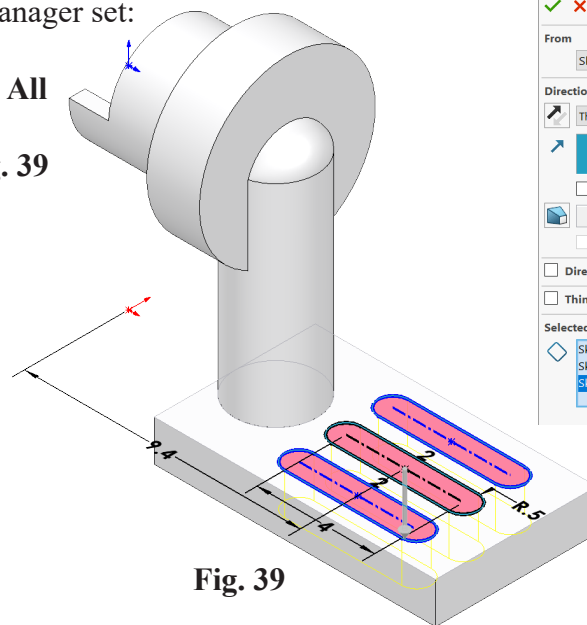

Fig. 39
- click the **3 contours**, **Fig. 39**